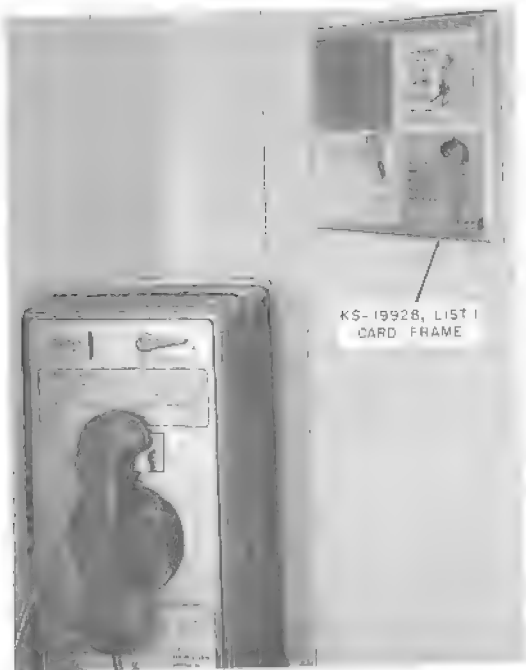

Fig. 2 — KS-19928, List 1 Card Frame Mounted on a Flat Wall
1.04 List 1 card frame is designed for flatwall mounting and is provided for use in KS-19206, KS-19340, and KS-19442 telephone booths (Fig. 2).